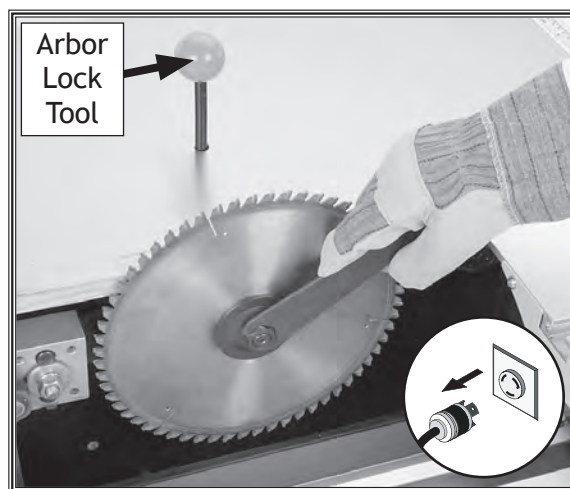

Figure 61. Replacing the main blade.
6. Use the arbor wrenches to remove the arbor nut and arbor flange, as shown in **Figure 61**, then pull the old blade off the arbor.